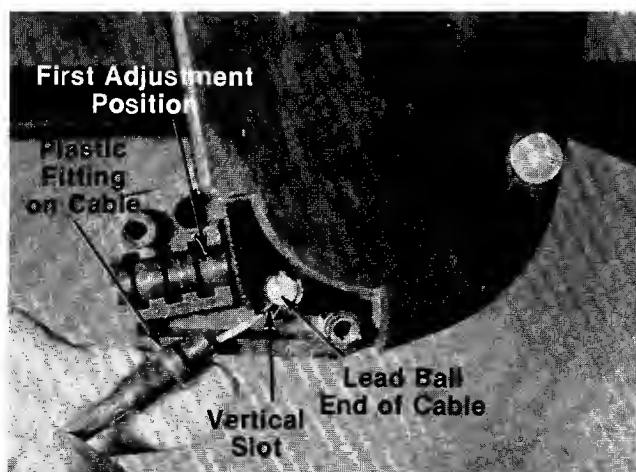

FIGURE 9.
15. The drive clutch control cable is attached to the deck. Attach the other end of the drive clutch control cable to the clutch control housing on the upper handle as follows. Place the lead ball end of the cable into the fitting provided in the end of the clutch control lever. Slip the braided wire into the vertical slot as shown in figure 9.
17. Place the plastic fitting on the control cable into the first adjustment position on the clutch control housing. See figure 9.
When starting the unit for the first time, face the mower against a solid object such as a wall, fence, etc. Start the unit, and if it shows any signs of motion with the drive clutch control disengaged, shut the engine off immediately. Check the position of the drive clutch control cable. The plastic fitting must be assembled in the first adjustment position inside the housing, all the way to the right, as shown in figure 9.